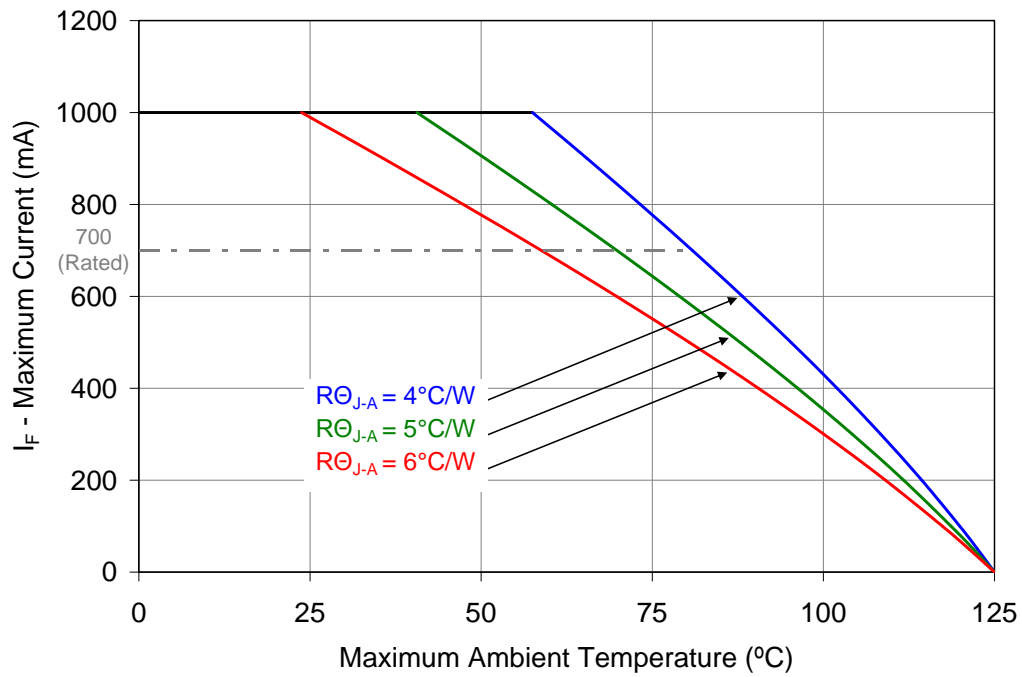

Figure 10: Maximum forward current vs. ambient temperature based on $T_{J(\text{MAX})} = 125^{\circ}\text{C}$.
- Maximum DC forward current is determined by the overall thermal resistance and ambient temperature. Follow the curves in Figure 10 for current derating.
Notes for Figure 10: